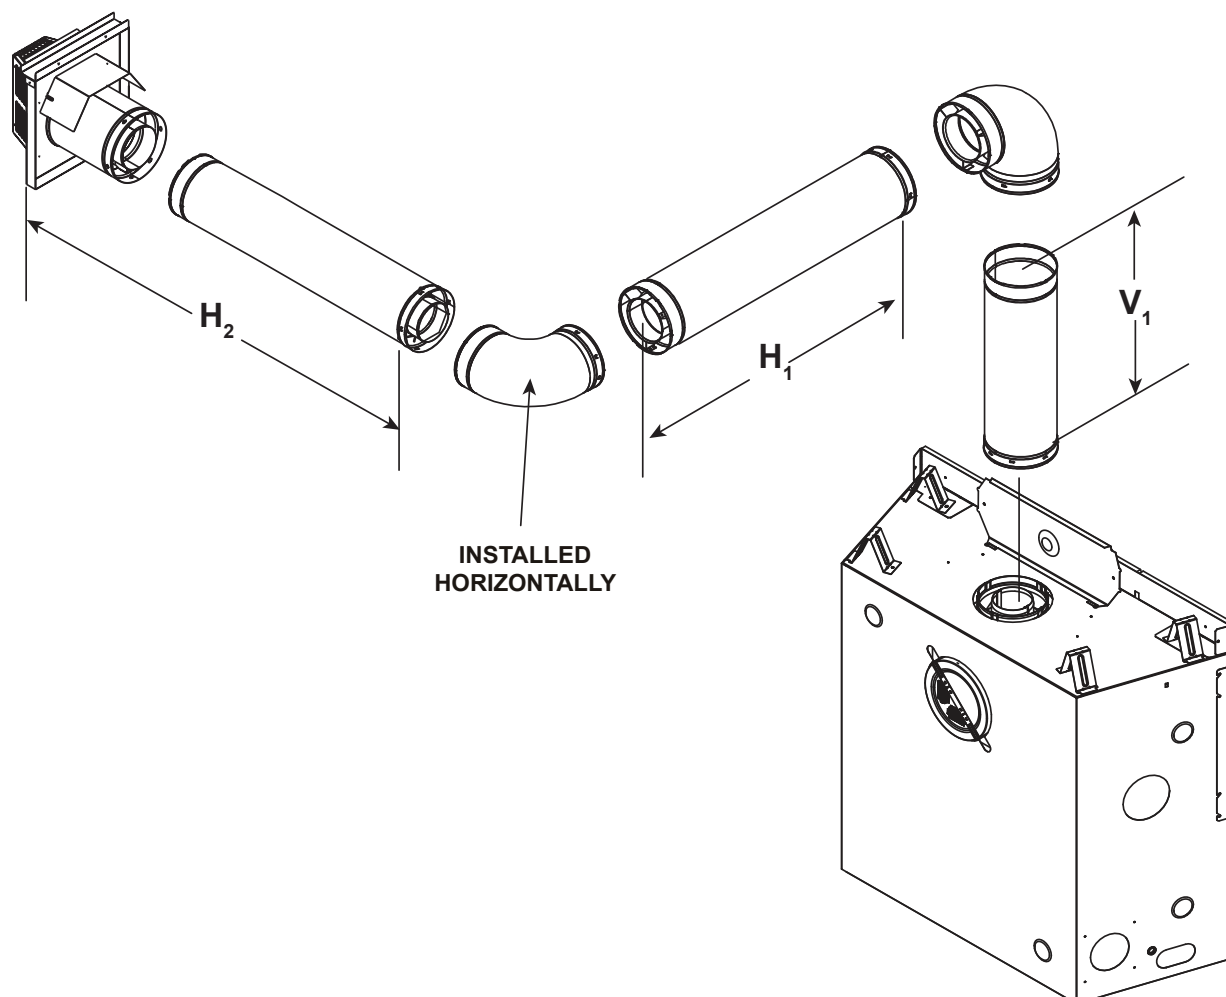

Figure 4.12
- **Top Vented:** A maximum of four 90° elbows (or eight 45° elbows) may be used in any vent configuration. See Figure 4.18. Some elbows may be installed horizontally. See Figure 4.12 and 4.17.